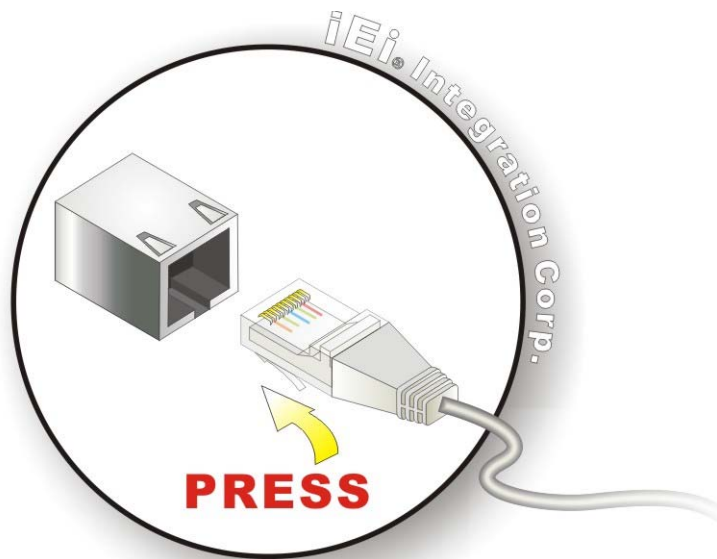

Figure 4-15: LAN Connection
Step 2: **Align the connectors.** Align the RJ-45 connector on the LAN cable with one of the RJ-45 connectors on the IMBA-C2160. See **Figure 4-15**.